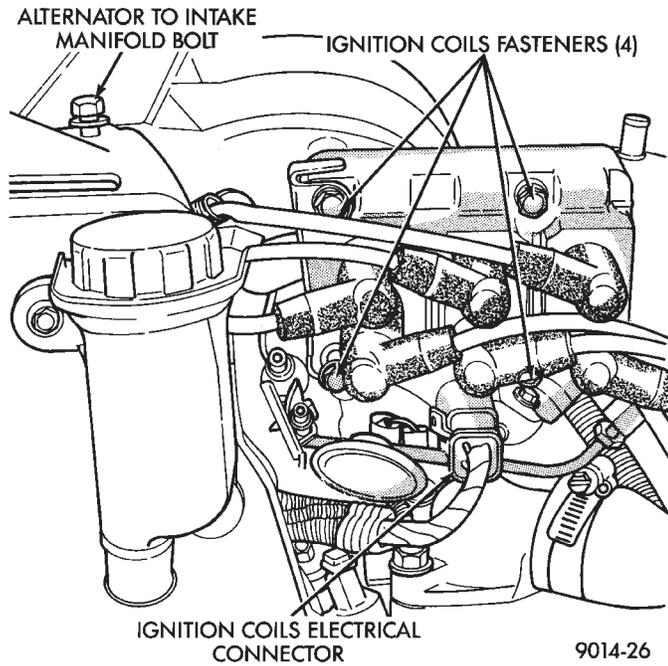

Fig. 8 Ignition Coils
- (13) Remove direct ignition system (DIS) coils and alternator bracket to intake manifold bolt (Fig. 8).
(17) Torque alternator bracket to intake manifold bolt to 54 N•m (40 ft. lbs.) (Fig. 8).